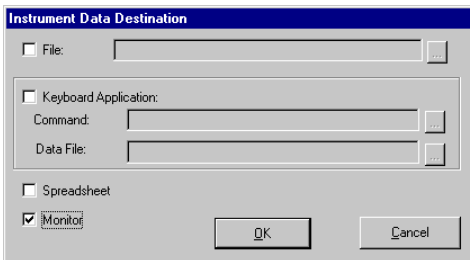
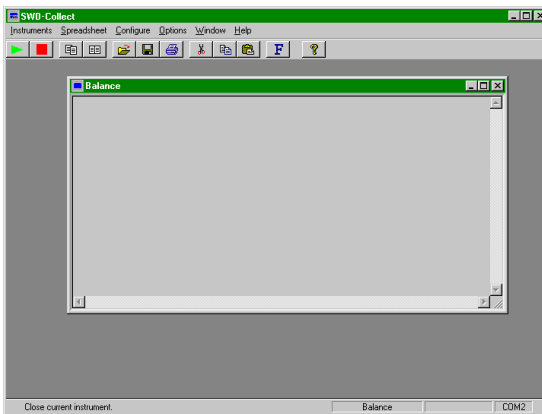

Figure 4.3: Instrument Data Destination dialog box
Figure 4.5: Spreadsheet
5. Click on the ‘**OK**’ button to proceed to the [Instrument Data Destination] dialog box (see Figure 4.3). Clicking on the ‘**Cancel**’ button will return you to the previous dialog box.
SWD-Collected data is parsed and then combined with Macros (see chapter 5 - ‘*Instrument Parser Setup*’). Data can then be sent to a specified destination. When opening an instrument you must complete the [Instrument Data Destination] dialog box (see Figure 4.3) and click on the ‘**OK**’ button. Clicking on the ‘**Cancel**’ button will return you to the previous dialog box.
Specify the required information for the file destination, then click on the '**OK**' button. You will return to the [Instrument Data Destination] dialog box (see Figure 4.3, Page 31).
You may click on the ‘**Browse**’ button (pictured as an ellipsis ‘...’) to see the [Destination Application] dialog box, where you may specify the required information for the destination. Click on the ‘**OK**’ button in the Destination Application window to return to the [Instrument Data Destination] dialog box (see Figure 4.3, Page 31).
Once you have specified where to send the instrument data through the [Instrument Data Destination] dialog box (see Figure 4.3, Page 31), click on the ‘**OK**’ button located along the bottom of the dialog box. Doing so will confirm the ‘Destination’ details and open the instrument. A new window will open in **SWD-Collect** with that instrument’s name appearing at the top. Depending upon which destinations were specified, you will see either a blank window (Monitor selected) or a window that includes the spreadsheet (Spreadsheet selected), similar to the example shown in Figure 4.5.
will be located or started, according to your entries in the [Instrument Data Destination] dialog box (see Figure 4.3, Page 31). The **SWD-Collect** Instrument and the Destination Application will be 'locked' together.
1. Pull down the **I**nstruments menu from the top of the screen (see Figure 4.5, Page 34), and select the **C**ommand sub-menu item.
Please Note: If the rate of data collection is occurring at a very fast rate, you may be unable to activate the *'Interrupt'* button. If this is the case, quickly press on the <Pause Break> key as many times as is necessary to terminate data collection. Use of the <Pause Break> key to halt data collection is only applicable when 'Keyboard Application' has been specified through the [Instrument Data Destination] dialog box (see Figure 4.3 Page 31).